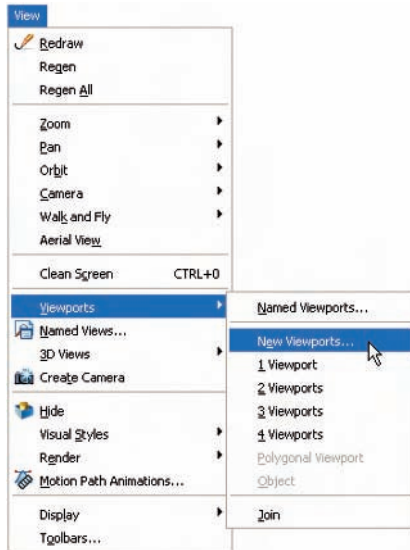
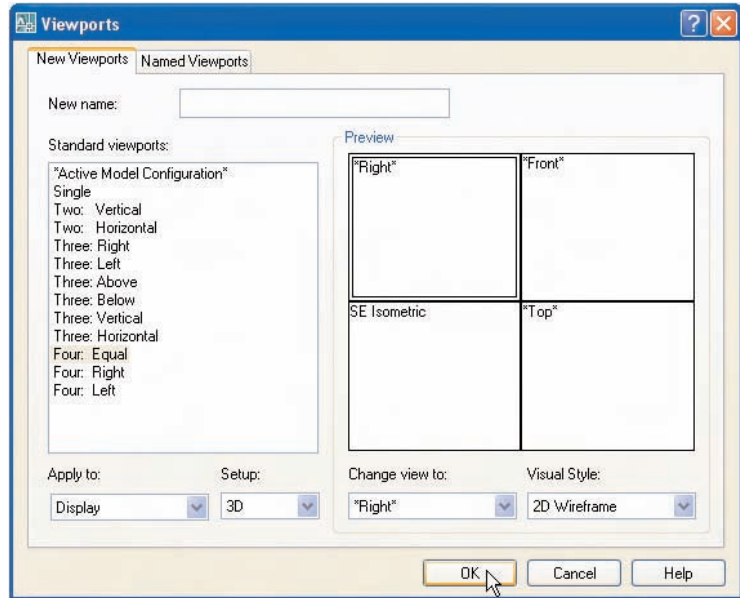

Fig. 14.1 Selecting **New Viewports . . .** from the **View** drop-down menu
Fig. 14.2 The **Viewports** dialog
1. Click **View** in the menu bar and from the drop-down menu which appears click **Viewports** and in the sub-menu which then appears click **New Viewports . . .** (Fig. 14.1). The **Viewports** dialog appears (Fig. 14.2).